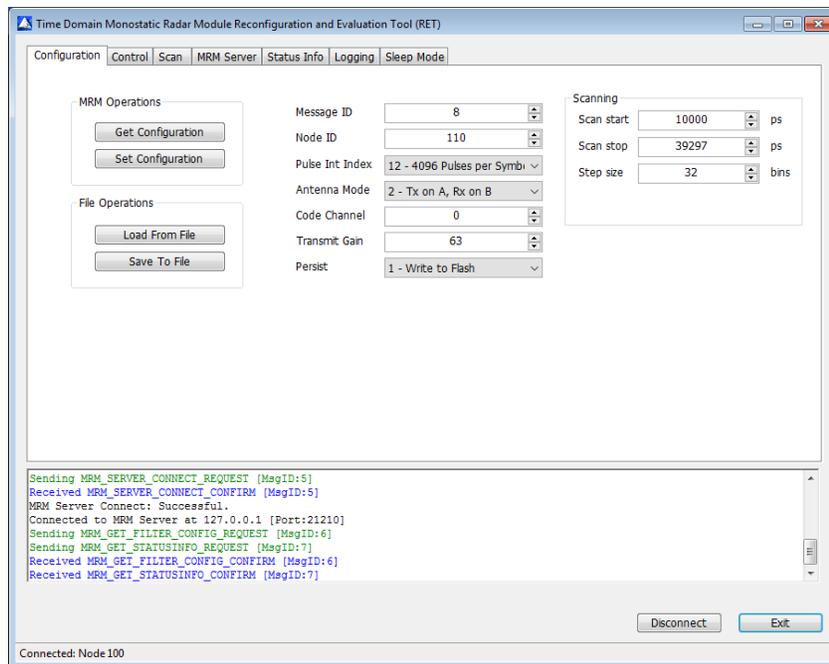

Fig. 10: MRM RET connected to the P440
3. If the connection is successful, click the **Connect!** button. The main operating window will open (**Figure 10**). Several messages should appear in the status window at the bottom of the screen. The final line should read “Status Info Get: Successful.”